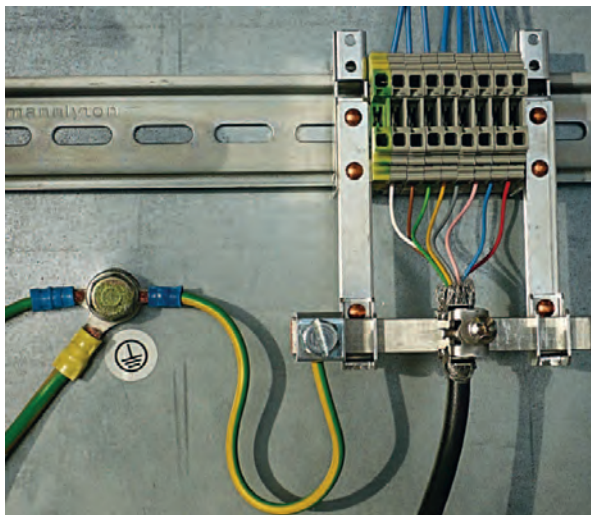

Figure 7.2: Connecting the cable shielding in the switch cabinet
- ✎ Clamp the shield in the switch cabinet flat to FE (see figure 7.2). Use special shielding terminals (e.g., Wago, Weidmüller, ...).